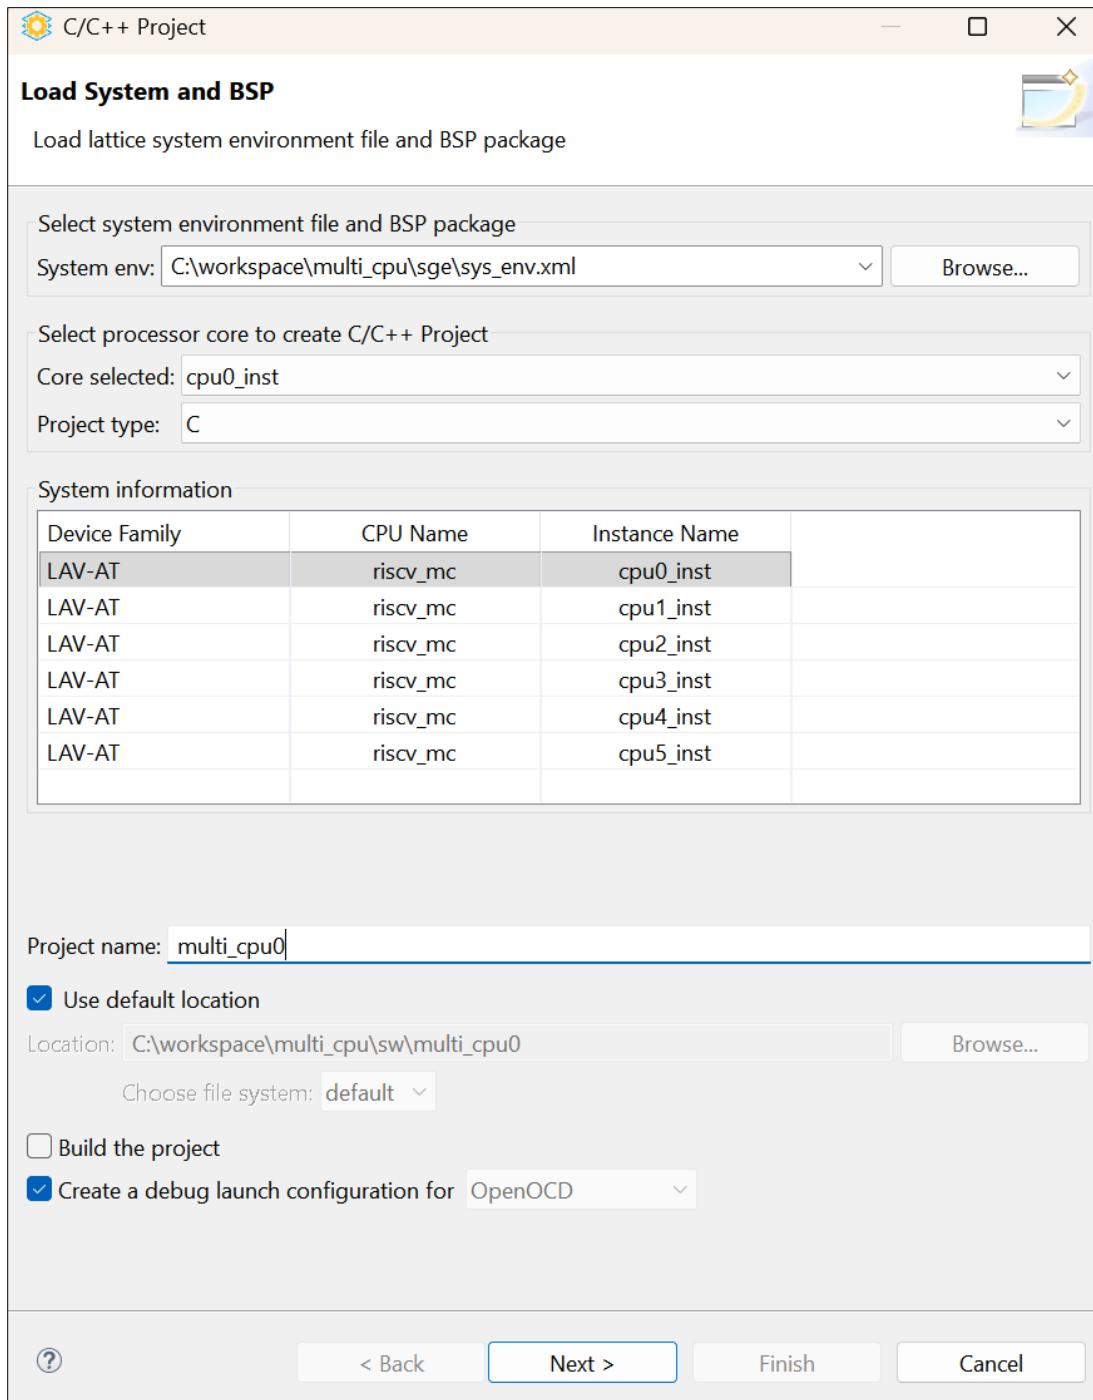

Figure 4.9. Load System and BSP – Select cpu0_inst
- a. Browse to the `sys_env.xml` file generated by Lattice Propel Builder, as shown in Figure 4.9.